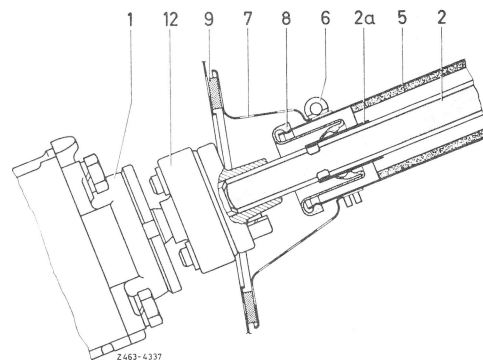

Fig. 6
11 Check whether rubber sleeve (8) for sealing the steering spindle (2) is correctly located in jacket tube (5) (Fig. 6).
12 Insert jacket tube (5) into front end and cross member, making sure that the sealing shim (9) is correctly seated on cover plate (7) and is inserted into steering coupling (12) together with the steering spindle (2) (Fig. 6).